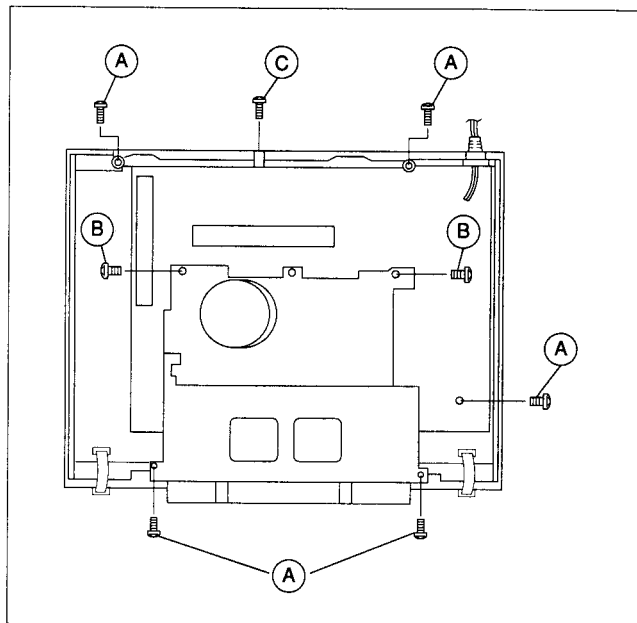

Fig. 1-5-1
- (1) Remove the Top cover, Front panel assembly, CN1201 of the DISPLAY board assembly and CN1204 of the SW/JACK board assembly.
- (2) Take out 5 screws (A), 2 screws (B) and 1 screw (C) as shown in Fig. 1-5-1.